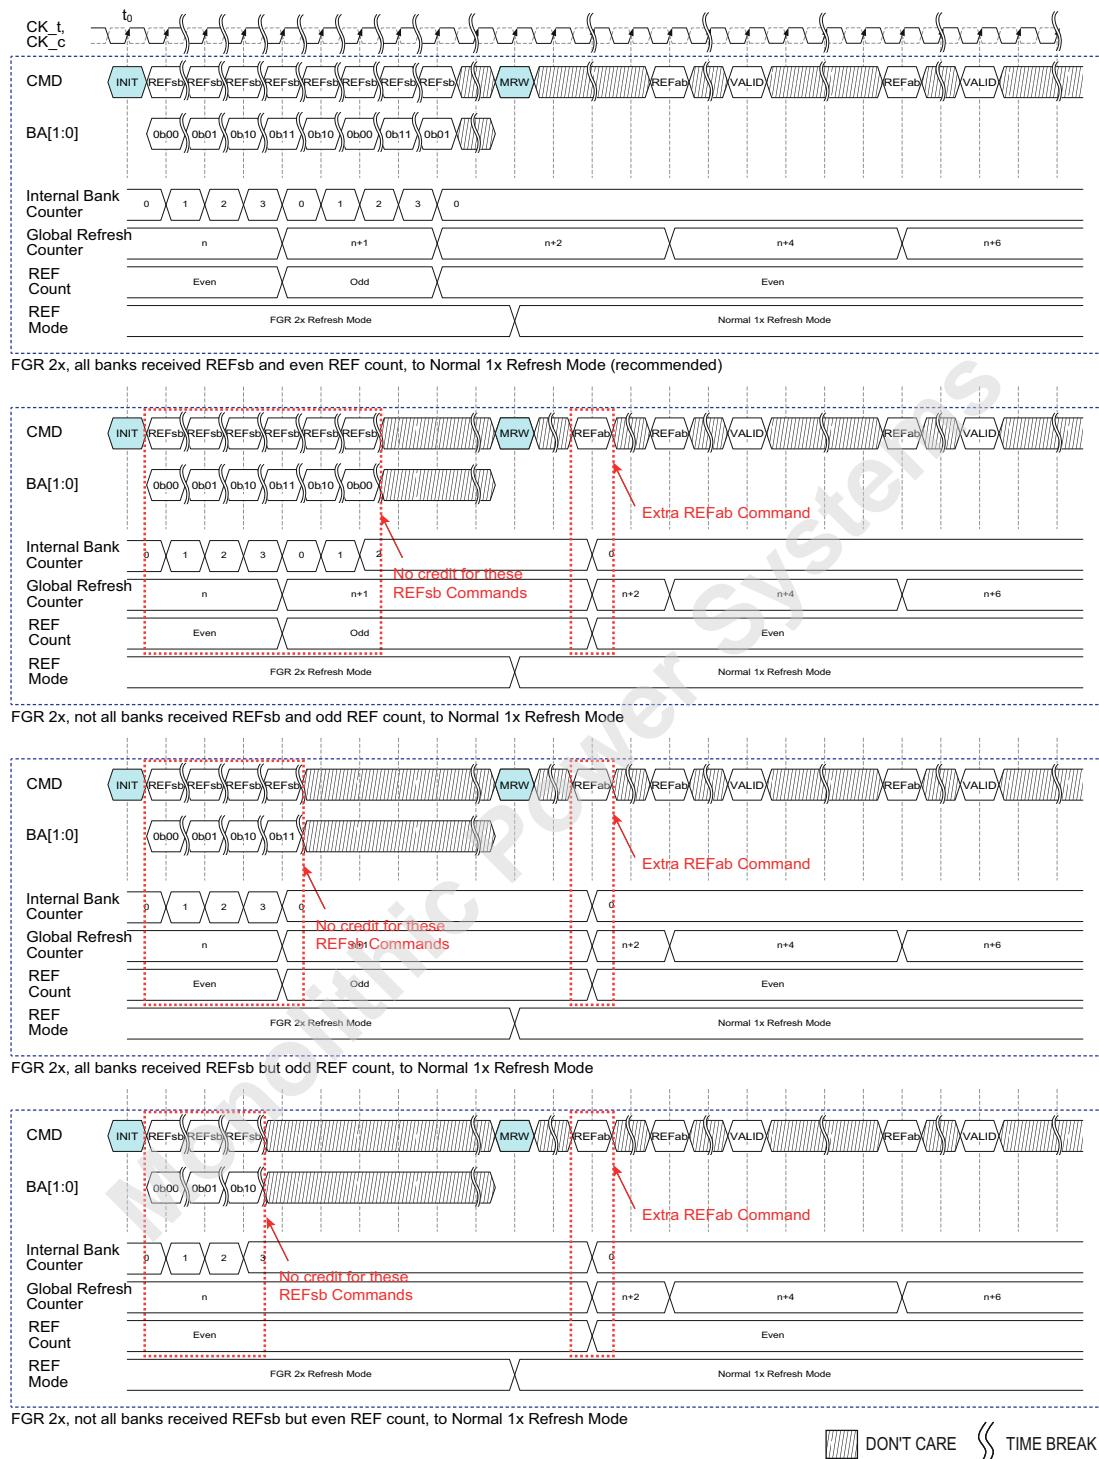

Figure 68 — 16 Gb and Higher Density DRAM Refresh Mode Change from FGR 2x REFsb to Normal 1x Command Timing
3. If performing REFsb commands, it is recommended that all banks have received an even number of REFsb command since the last change of the Refresh mode with an MRW command before the Refresh mode is changed again by another MRW command, since a REFab command will reset the internal bank counter. If this condition is met, no additional refresh commands are required upon the Refresh mode change. If this condition is not met, one extra REFab command is required to be issued to the DDR5 SDRAM upon Refresh mode change. These extra Refresh commands are not counted toward the computation of the average refresh interval (tREFI1). These extra Refresh commands count toward the maximum number of refreshes which may be postponed. See Figure 68 for 16Gb and higher density DRAM with 4 banks in a bank group example.